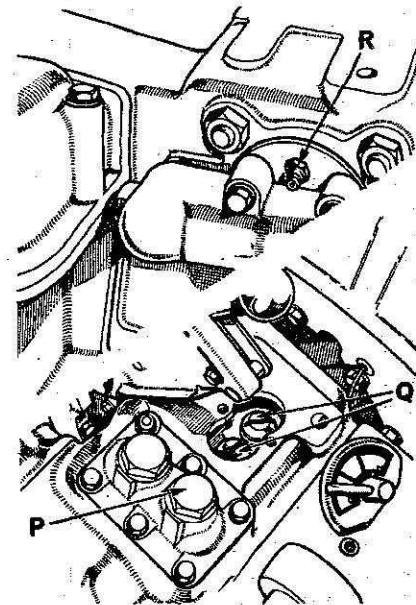

Fig. 181—Views showing bleeding points for hydraulic system; refer to text for procedure.
Remove plate from rear axle housing to expose the hold and by-pass valve plunger plugs (Q—Fig. 181). Start engine and, except on models 770 and 1200, loosen plug (P) in axle housing plate. Pull control lever fully rearward against spring pressure and hold in this position until oil free of any air bubbles runs from loosened plug, then push lever forward and tighten plug. On all models, loosen hold and by-pass valve plugs (Q) and pull control lever fully rearward against spring pressure until flow of bubble free oil is obtained, then push lever forward and tighten plugs. Loosen the ram cylinder bleed plug and again pull control lever fully rearward against spring pressure. When lift linkage is fully raised and bubble free oil is running from bleed screw, tighten the screw. Note that the ram cylinder bleed screw has the appearance of a grease fitting.